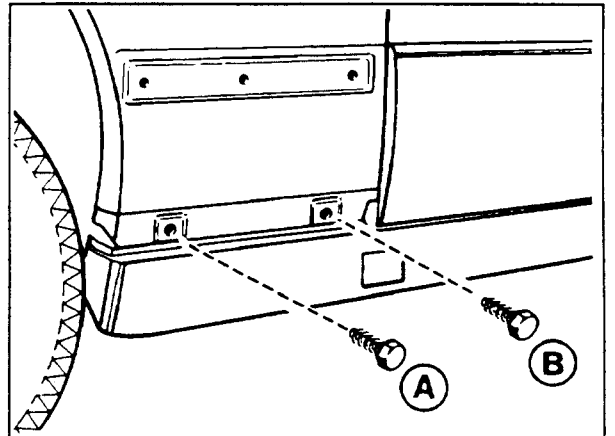

Figure 3
8. Remove the two fastening bolts (A and B, Figure 3).